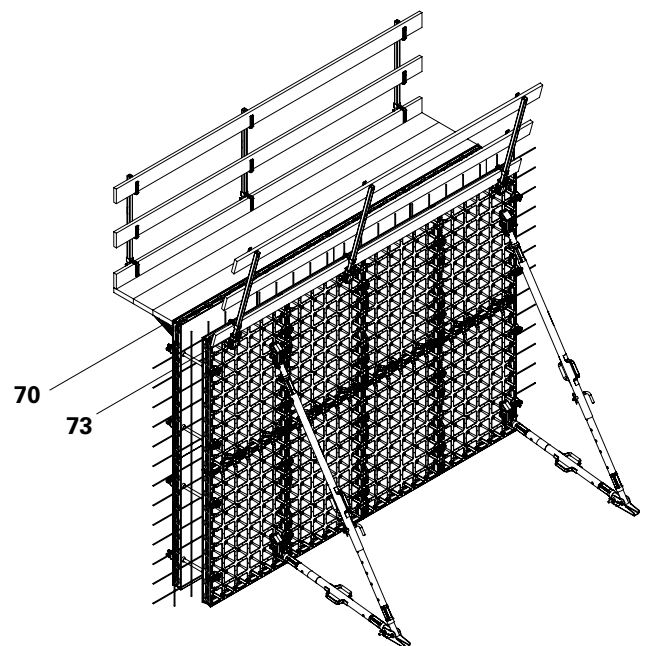

Fig. B1.08
1. Install the DUO 70 scaffold bracket (70) and DUO front post holders (73) (Fig. B1.08), see section B4 Working and concreting scaffolds.
From a safe and secure working platform (Fig. B1.08)